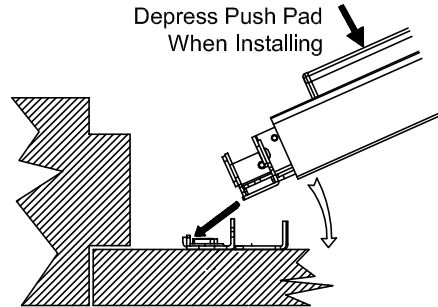

Fig. 9
2. (Fig. 9) Depress pushpad, insert centercase into slots of backplate and rotate toward door.